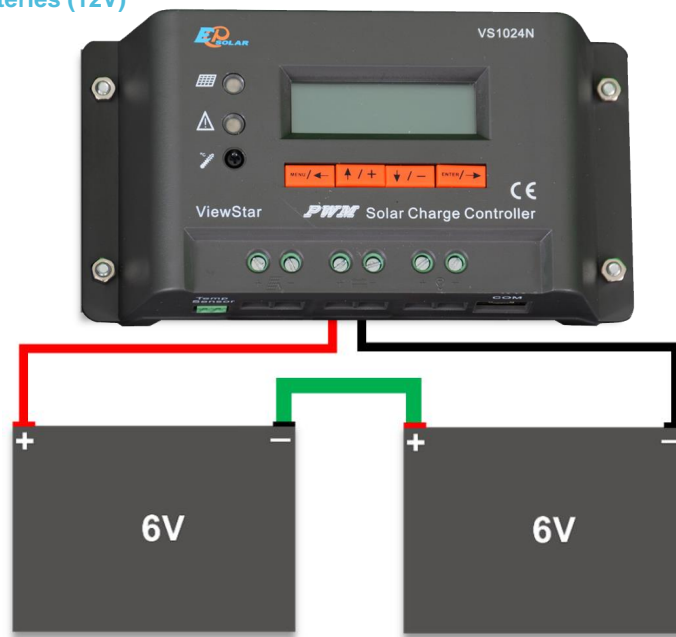

Figure 9.1 Two 6V batteries connected in series
When two or more batteries are connected in a series, their voltages add up, but the Amp-Hour (AH) capacity remains the same. **Fig. 9.1** shows two 6V batteries in parallel. For example, say each battery has 225 Ah. This wiring will form a 12V battery bank with a capacity of 225 Ah. Notice that the cables connecting the batteries in series are of heavier gauge than the ones coming from the controller. These cables have to be of heavier gauge because when power is drawn from an inverter, it involves large amounts of current. This interconnection cable is often sized according to the power of the inverter.